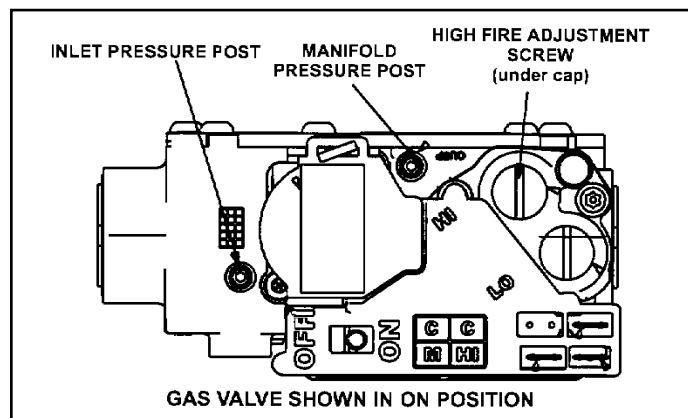

Figure 67.
6. Move gas valve switch to **OFF**. See Figure 67.
8. Move gas valve switch to **ON**. See Figure 67.
An inlet pressure post on the inlet side of the gas valve provides access to the supply pressure. See Figure 67. Back out the 3/32 Hex screw one turn, connect a piece of 5/16" tubing and connect to a manometer to measure supply pressure.
1. A manifold pressure post located on the gas valve provides access to the manifold pressure. See Figure 67. Back out the 3/32 Hex screw one turn, connect a piece of 5/16" tubing and connect to a manometer to measure supply pressure.